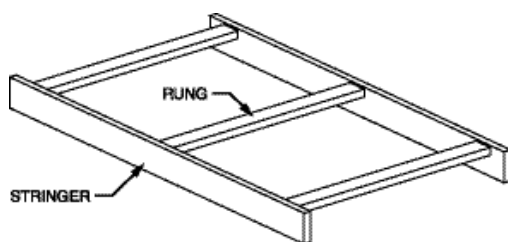
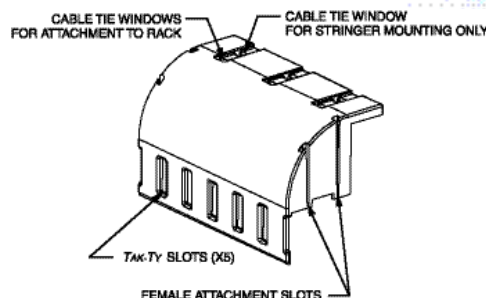

Figure 1 (Ladder Rack)
Figure 2
1. Mount waterfall base (Figure 2) to stringer or rung (Figure 1) with three black *PANDUIT*® PLT series Cable Ties. When mounting the base to the stringer, both cable tie windows are used (Picture 1). When mounting the base to a wide rung, only one of the cable tie windows are used in (Picture 2).